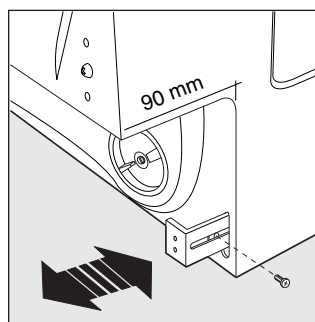

Fig. 17
- If the machine is installed at the end of a set of modular cabinets, mount either one or both of the guides for the base molding (as shown in fig. 17) with the type **F** screws. Adjust them for depth based on the position of the base molding, and, if necessary, fasten the base to the guides.